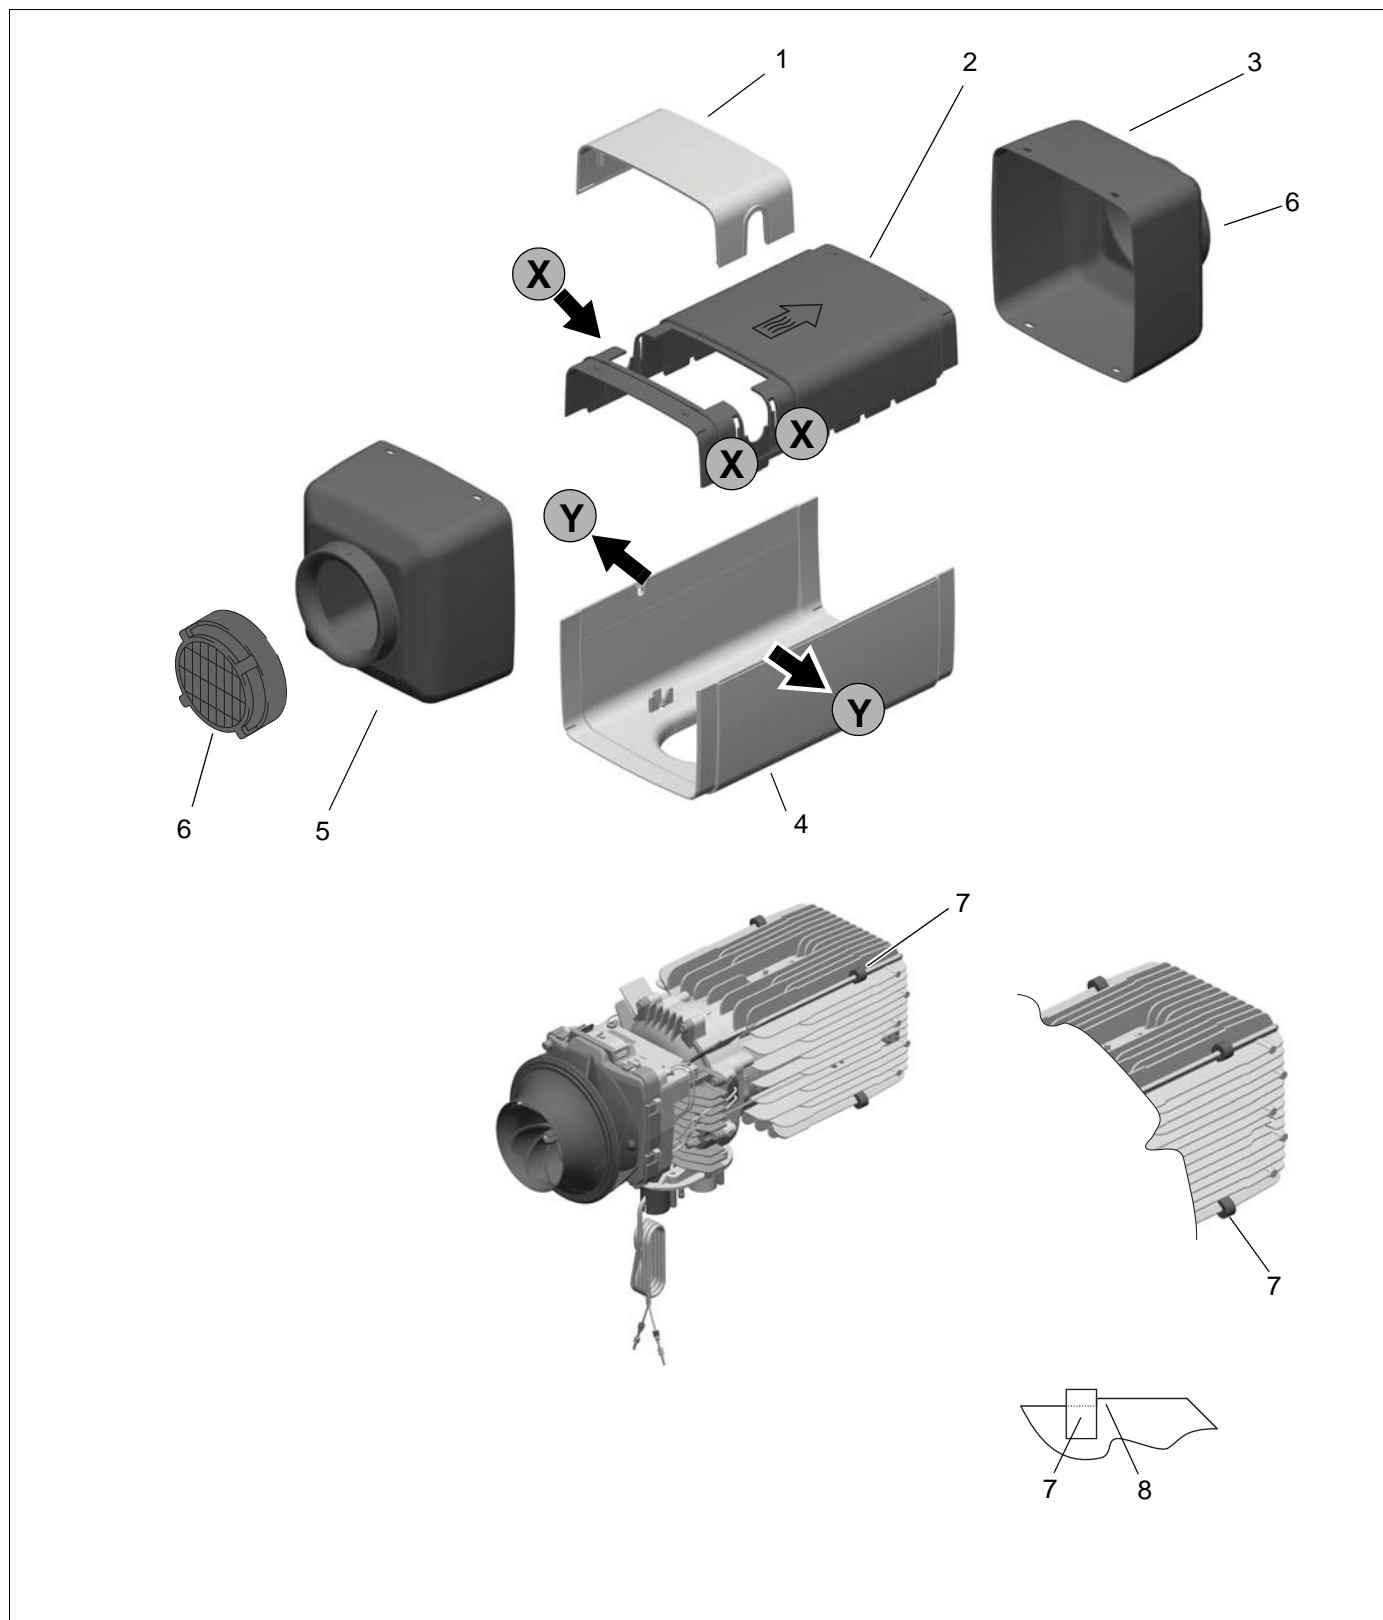

Fig. 902 Removing/fitting housing parts
The cover (1, Fig. 902) can be carefully levered off using a blunt blade in the areas marked "X".
The grilles (6, Fig. 902, optional) can be released by twisting them out of the latch and pulled off toward the front.
Both covers (3 and 5, Fig. 902) can be released from the latch and removed at the top and bottom by pressing in the 4 locking lugs of the upper and lower shell (2 and 4, Fig. 902) with a suitable tool.
The upper shell (2, Fig. 902) can be lifted off after removing the covers for the cold air inlet and hot air outlet.
2. Expand the bottom shell (4, Fig. 902) slightly at the side and fit it to the heater from underneath until the securing pins on the heater engage in the holes in the shell.
Place the top shell (2, Fig. 902) on the heater and fix it in place in the grooves of the lower shell.
Slide on the covers (3 and 5, Fig. 902) until the 4 positioning holes engage properly in the locking lugs of the lower and upper cover.
Place the grilles (6, Fig. 902, optional) on the covers for the cold air inlet and hot air outlet.
Slide on the cover (1, Fig. 902) until it audibly engages in the upper cover.